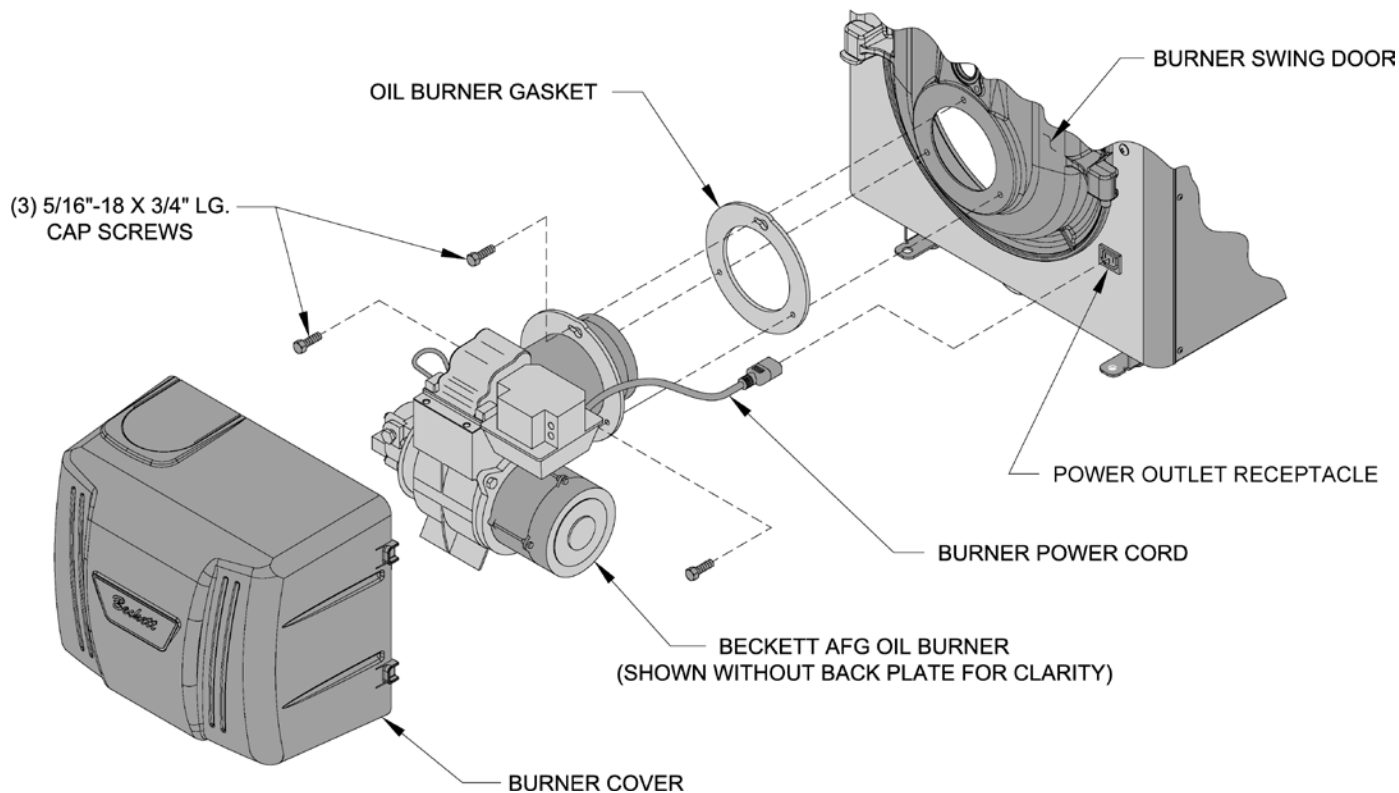

Figure 9: Oil Burner Installation (Beckett Burner Shown)
7. Install oil burner. (See Figure 9)
- c. Remove three (3) 5/16-18 x 3/4 lg. cap screw from burner swing door used for mounting burner.
- d. Thread (1) 5/16-18 x 3/4 lg. cap screw, approximately three (3) full turns, into tapping located at 12:00 o'clock on burner swing door.
- f. Align holes and install two (2) remaining cap screws. Level burner and fully tighten all three (3) screws.